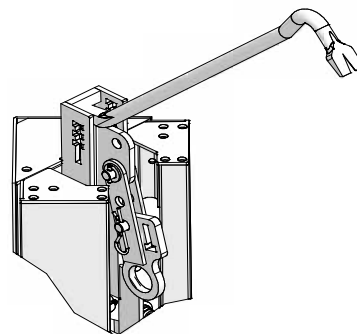

Fig. 32.5 C
7. The stripping corner can be reset for the next pour by positioning the crowbar at position C (Fig. 32.5 C) and pushing the bell-crank lever down.